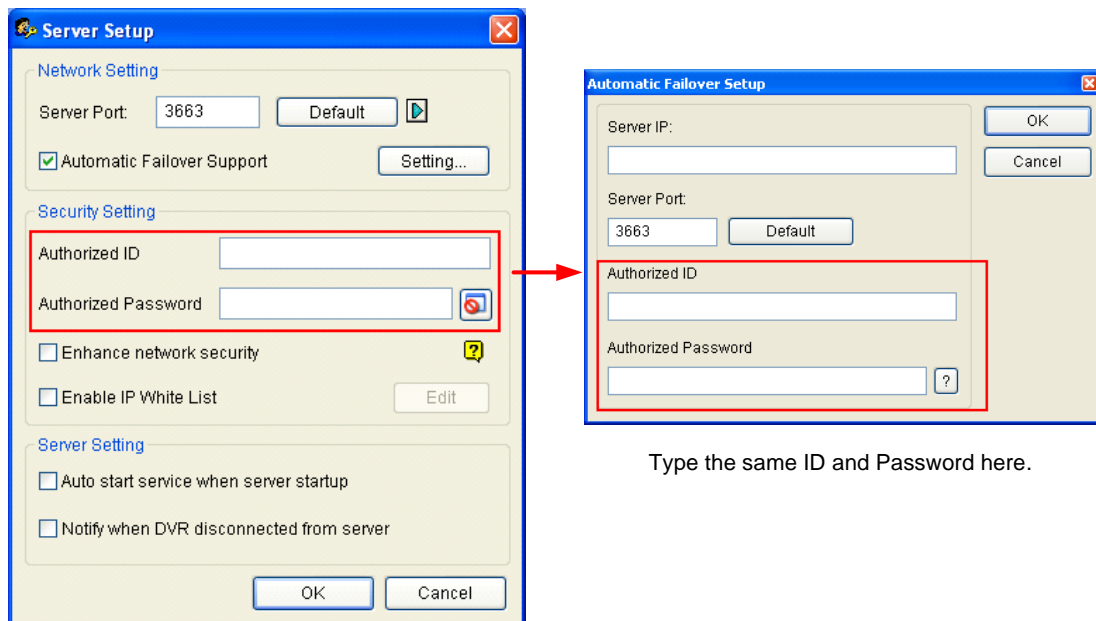

Figure 11-31
2. In the Authentication Server window, click the **Server Setup** button. The Server Setup dialog box (Figure 11-31) appears.
4. Click the **Add** button. The Automatic Failover Setup dialog box (Figure 11-31) appears.